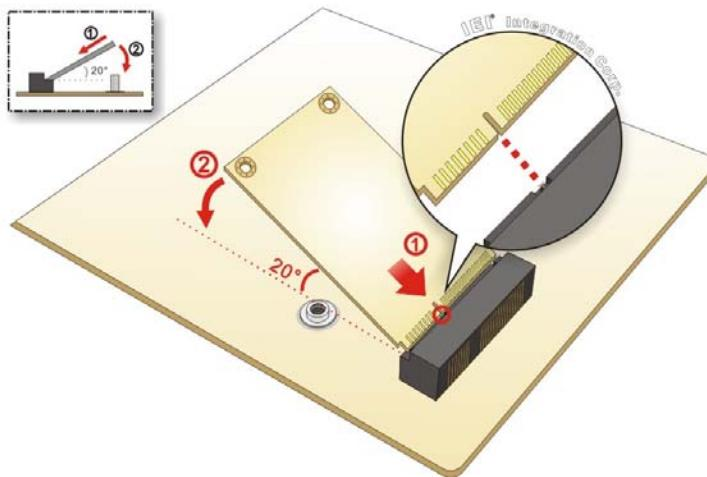

Figure 3-10: Inserting the Full-size PCIe Mini Card into the Slot at an Angle
Step 5: Insert into the socket at an angle. Line up the notch on the card with the notch on the slot. Slide the PCIe Mini card into the socket at an angle of about 20° (**Figure 3-10**).